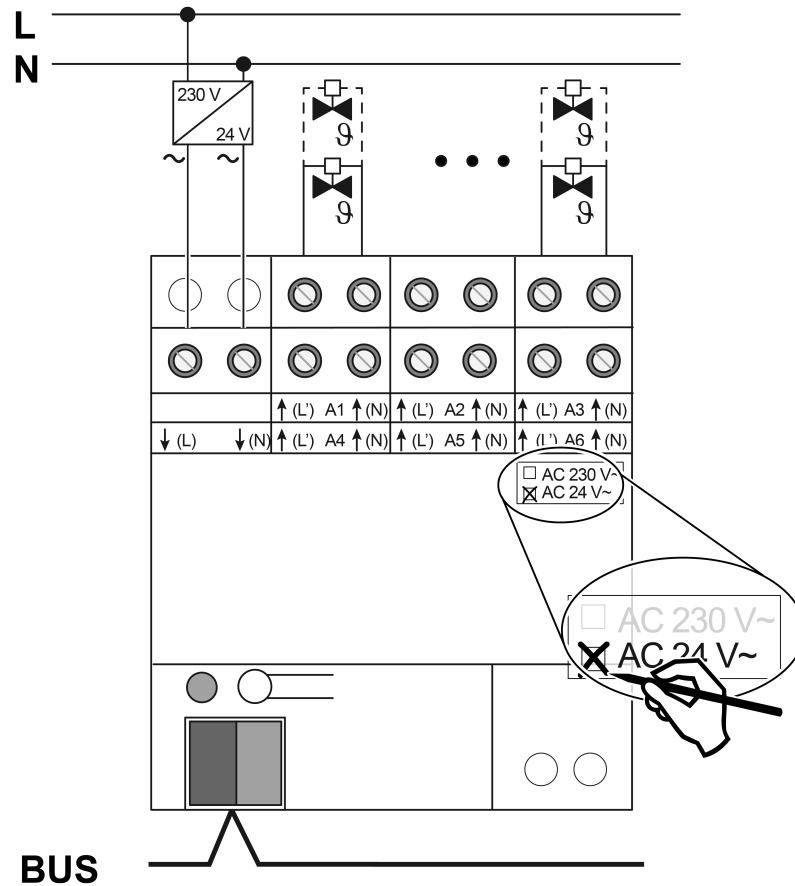

Figure 3: Connection of actuators 24 V
- Connect the AC 24 V valve drives according to the connection diagram (see figure 3).
- Connect the supply for the valve drives to the terminals ↓(L) and ↓(N) (1).